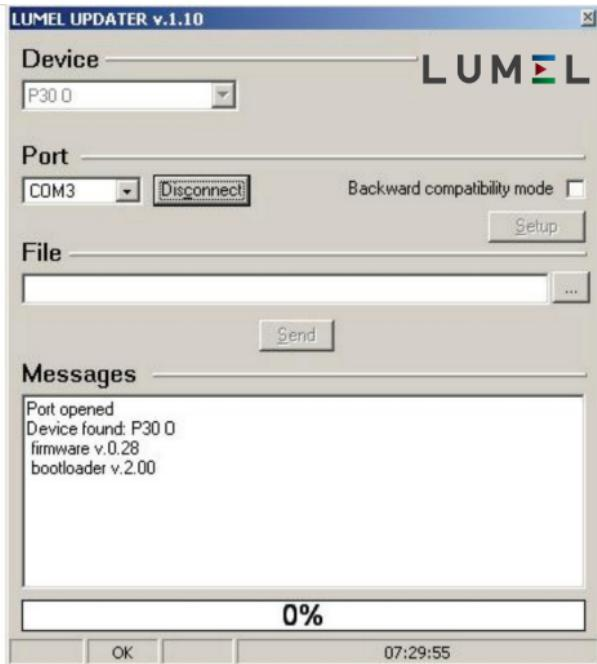

Fig. 27. Screenshot of the software for updating transducer firmware
After starting eCon software, set the rate, mode and transducer address, as well as the RS-485 interface port in **Communication** tab. Next, click **connect** icon and read all transducer parameters (required for restoring them later). Then, click **Update firmware** link which will call LUMEL UPDATER (LU) software dialog – fig. 27. Check transmission parameters using **Setup** button and press **Connect** button. Information about the update progress are displayed in Messages box. If the port is correctly opened, **Port opened** information is displayed. There are two methods of entering updating mode in the transducer: remotely via LU (based on eCon settings – address, mode, rate, COM port) or by powering the transducer on while holding down key – update using default communication parameters, i.e. rate 9,600 kb/s, mode 8N2, or while holding down key - update using recommended communication parameters, i.e. rate 115,200 kb/s, mode 8N2. If all indicating LEDs are on and the display shows Connect UPDATER message, transducer is ready to connect with computer. If the transducer establishes communication with LUMEL UPDATER (LU) software, **Device found: P30o** message and the version of the main firmware and bootloader will be displayed, as well as the **Device is ready** message will be shown on the transducer display. Next, press “...” button and read the file with the new firmware version in LUMEL UPDATER. If the file opens properly, **File opened** information will be shown in the LU software window. Press **Send** button. During the update process, the indicating LEDs are switched on in a sequence, and the percent progress of update is shown on the lower line of the display. After a successful update, the transducer restarts to normal operation, whereas **Done** message and update duration are displayed in the information box (LU).